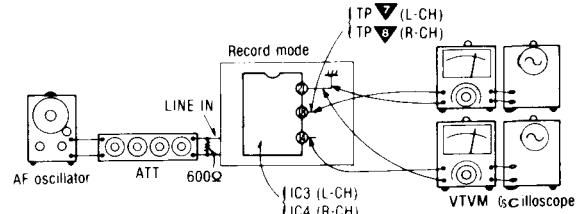

Fig. 19
- 1. Make connections as shown in fig. 19.